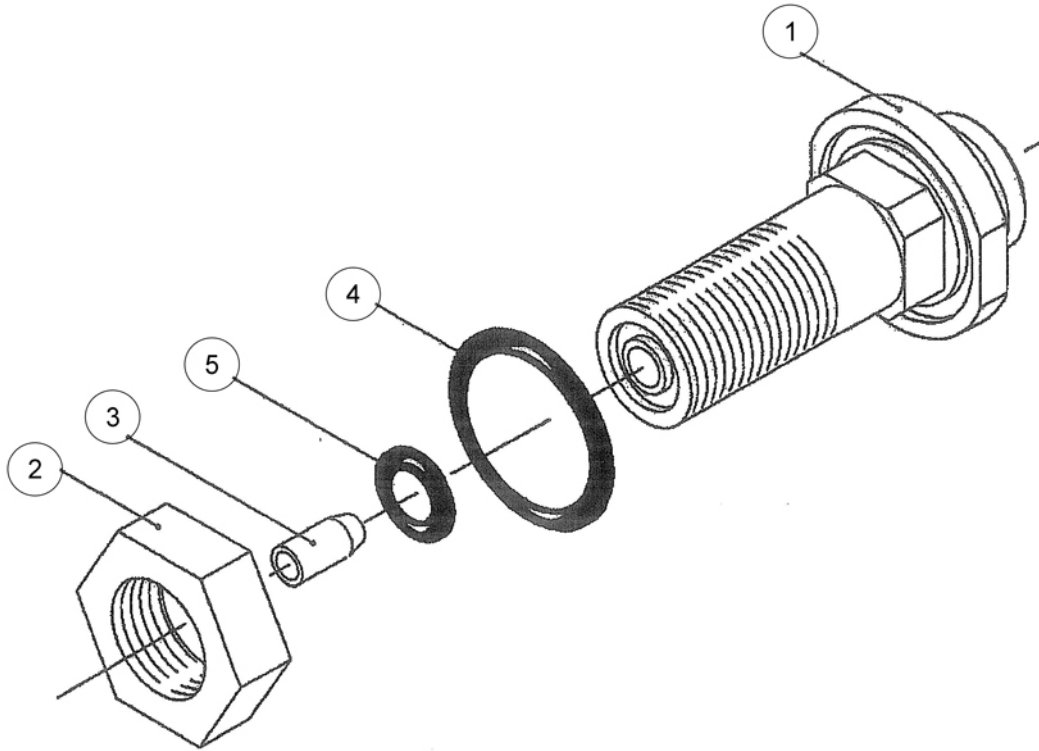

Fig 4.12 Corrective Maintenance - Lower Penetrator
1. Undo the locknut (Fig 4.12, Item 2).
2. Withdraw the penetrator (Fig 4.12, Item 1) from the hole.
3. Check the O-rings (Fig 4.12, Items 4 and 5) for wear and replace as necessary.